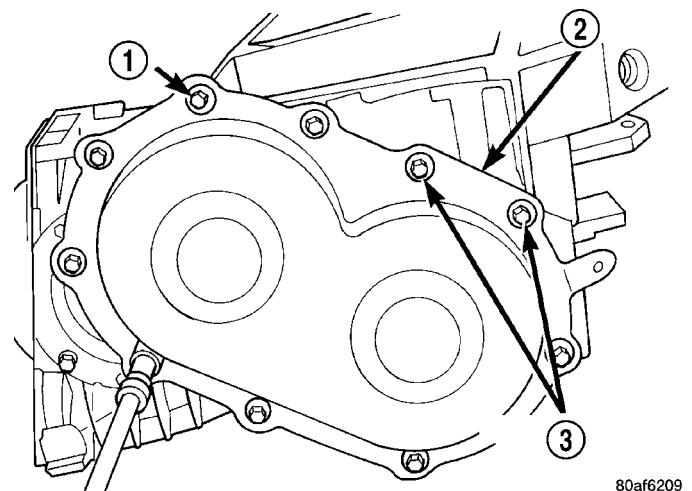

Fig. 122 Install Rear Cover Bolts
(37) Install transfer gear cover-to-case bolts and torque to 20 N·m (175 in. lbs.) torque (Fig. 122).